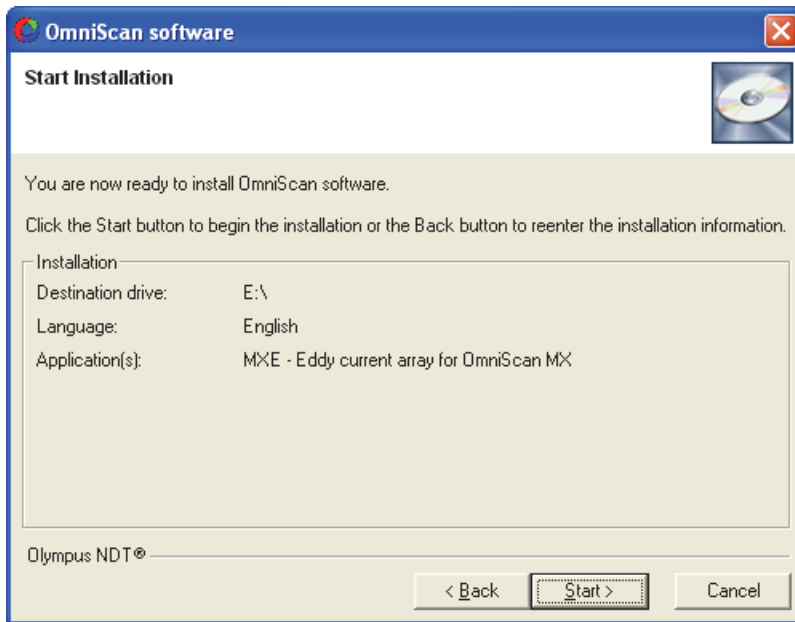

Figure 4-18 The OmniScan software Start Installation dialog box
The **OmniScan software Start Installation** dialog box appears (see Figure 4-18 on page 80).
- In the **OmniScan software Start Installation** dialog box, click **Start** to begin the installation (see Figure 4-18 on page 80).